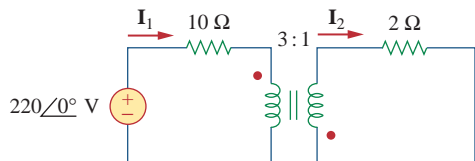

Figure 13.106
13.41 Determine I_1 and I_2 in the circuit of Fig. 13.106.